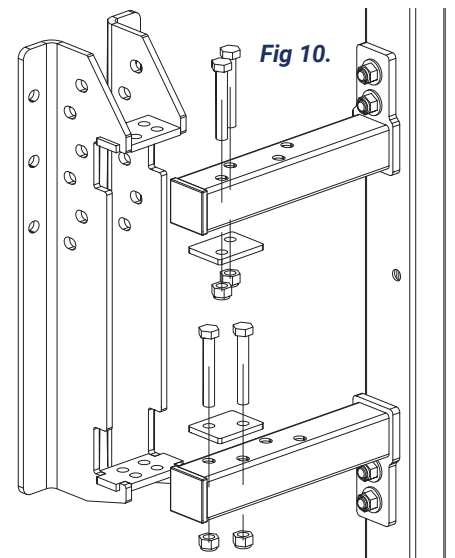

Fig 10.
2. Fix the channel onto the arms using 4no M12 x 80 bolts in conjunction with the drilled plates. Be sure to use the 2no holes furthest away the crush (Fig 10).